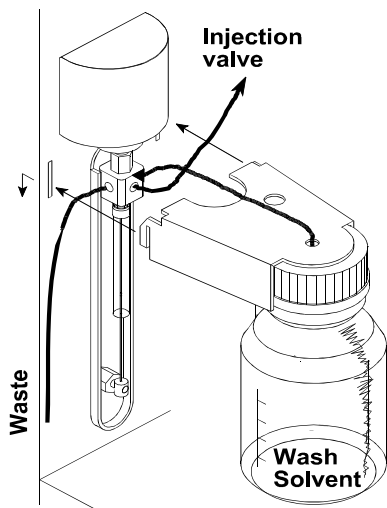

Figure 3-1. Installation of wash solvent bottle
3. Place the holder in the Finnigan Micro AS as indicated in Figure 3-1.